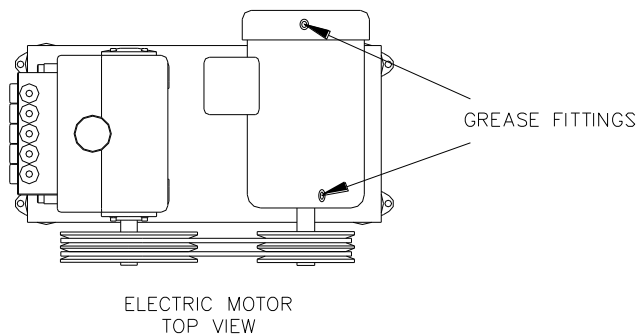

Figure 5.2: Electric Motor - Grease Fitting Locations.
Step 1: Locate the grease fittings on the motor (Refer to Figure 5.2). Use a clean cloth to wipe fittings clean.